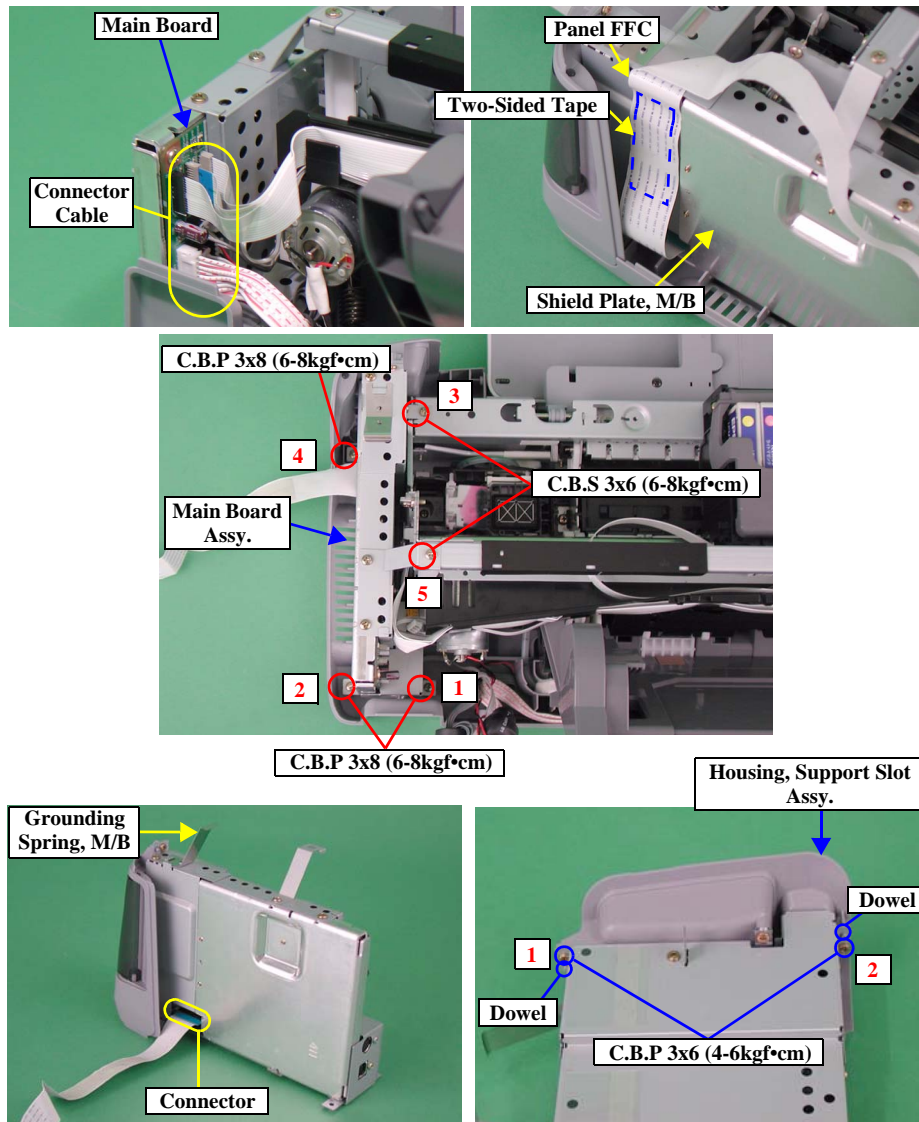

Figure 2-15. Removing "Main Board" (1)
- Screw in the order as shown in Figure 2-15.